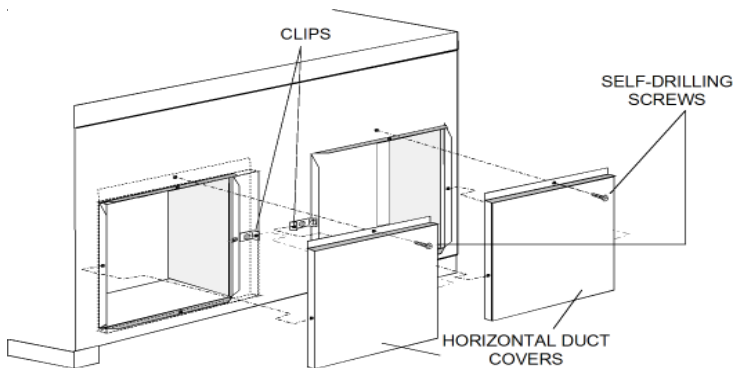

Figure 12 - Horizontal Duct Cover Installation
- Attach 16x16 horizontal covers using screws provided with kit to the outer duct opening flange and cover clip holes (Figure 12).